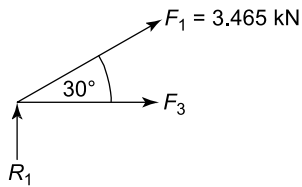

Figure 7.32
Consider next joint (2), as this joint now has two or less unknown forces; see Figure 7.32.